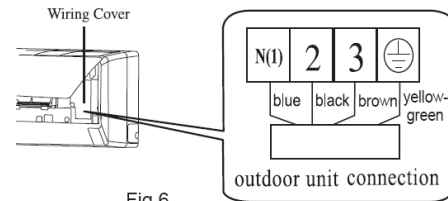

Fig.6
- (1) Open the front panel.
- (2) Remove the wiring cover connect and fix power connection cord to the terminal board as shown in Fig 6.
- (3) Make the power connection cord pass through the hole at the back of indoor unit.
- (4) Reinstall the cord anchorage and wiring cover.
- (5) Reinstall the front panel.